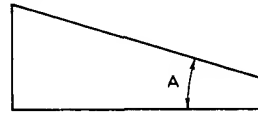

Fig. 1.67
9. You are supplied with three angle blocks of the type shown in Fig. 1.67, with the angle $A = 27^\circ$, 9° and 3° respectively. Show by means of dimensional sketches how to arrange *two or more* of these blocks to give an angle of (a) 18° (b) 30° (c) 39° (d) 33° (e) 21° (f) 12° .